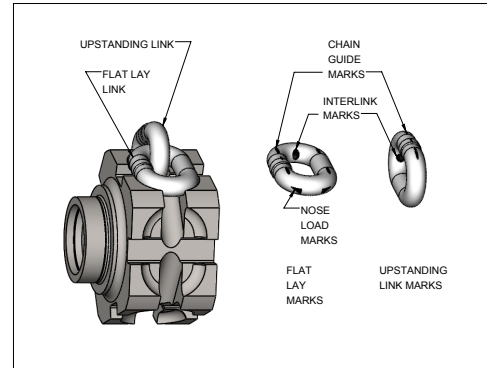

Figure 13. Chain Wear Areas
3. Slack the portion of the chain that normally passes over the lift-wheel (sprocket) or idler sprocket on multi-reeved hoist. Examine the chain links for wear (see Figure 13). If the wire diameter anywhere on the link measures less than 90% of the nominal wire diameter, the chain must be replaced.